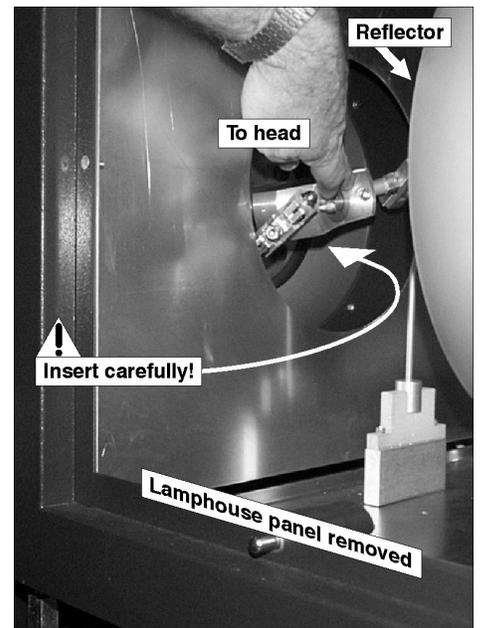

Figure 2.15. Insert jig into head
- Holding the jig with the 2 laser arms facing you, and with all 4 tabs positioned within the circumference of the jig without overlapping the edge, carefully move the jig into the lamphouse and insert fully into the projector head (any orientation). See Figure 2.15.